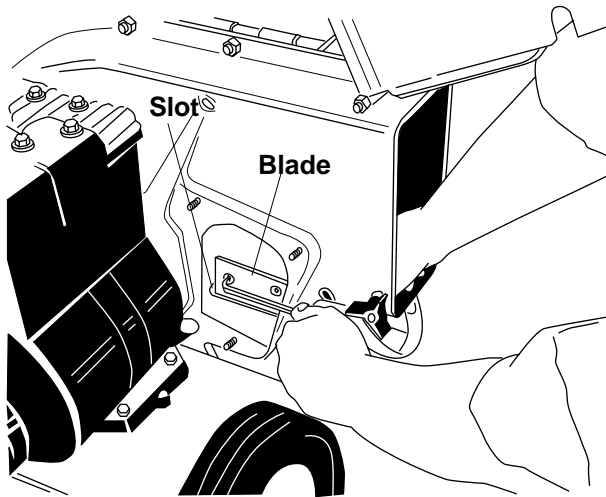

Figure 8
SHARPENING OR REPLACING THE CHIPPER BLADES (See Figure 8)
- Reassemble in reverse order. Make certain blades are reassembled with the sharp edge facing the direction shown in Figure 8 (sharp edge is assembled toward the slotted opening at the bottom).